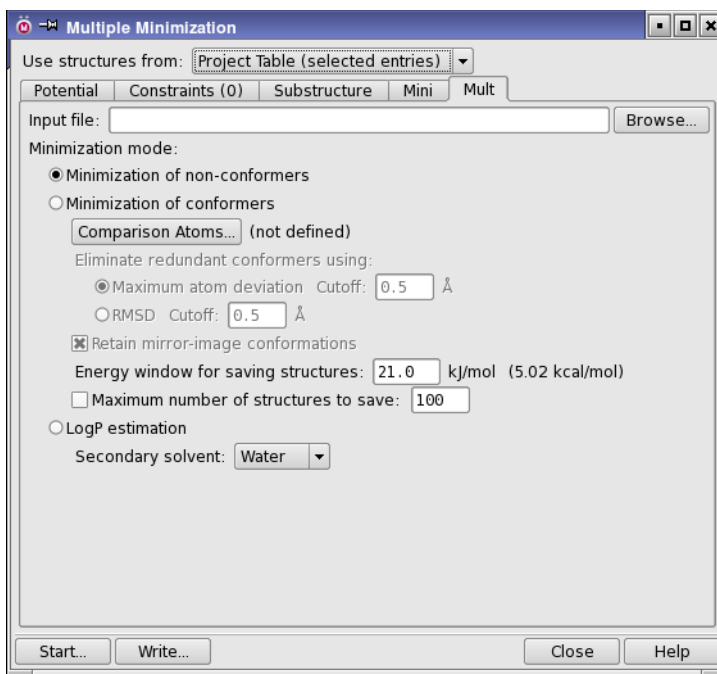

Figure 3.6. The Multiple Minimization panel showing the Mult tab.
8. Choose Project Table (selected entries) from the Use structures from option menu (see Figure 3.6).